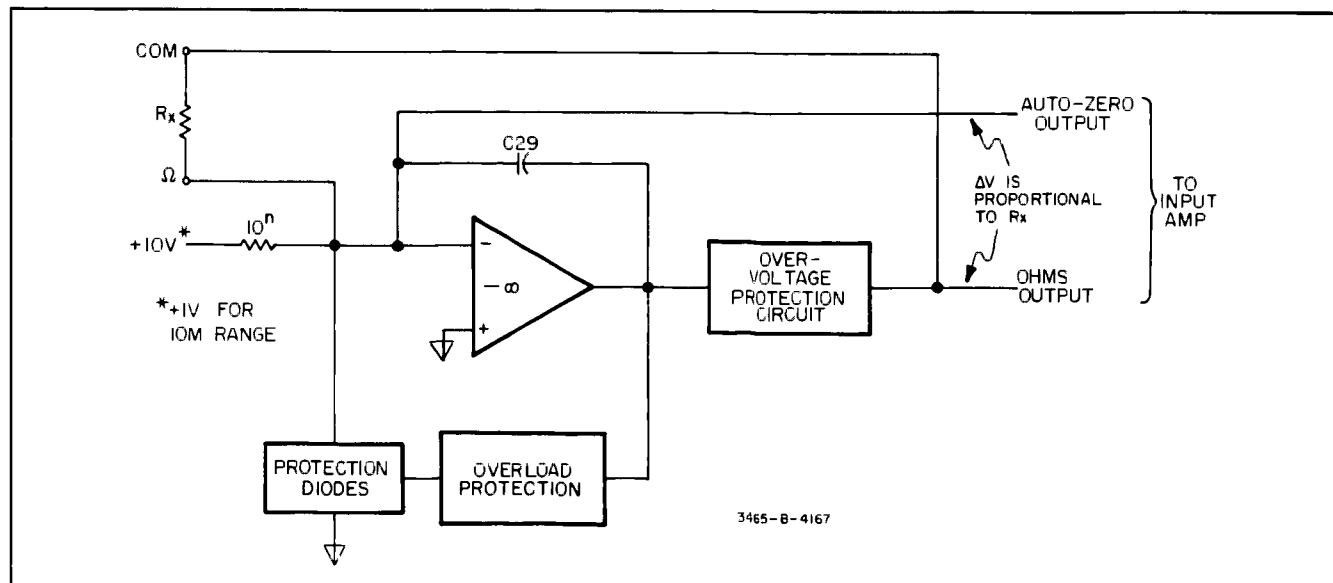

Figure 4-2. Simplified Diagram, Ohms Converter.
4-11. **Ohms Converter.** The ohms converter is a high gain integrating amplifier. A simplified diagram of the ohms converter is presented in Figure 4-2. The blocks of the ohms converter are the integrating amplifier, protection diodes, over-voltage protection circuit and the overload loop. An integrating amplifier is used because this type of amplifier is less susceptible to oscillations. The protection diodes clamp the HI terminal to a voltage of about +1.2 V in the positive direction or -0.7 V in the negative direction.
4-12. Figure 4-2 shows two outputs of the ohms converter being applied to the input amplifier. The ohms output is the ohms converter measurement signal and the auto-zero output is the ohms amplifier dc offset signal which is called the auto-zero (AZ) signal. This AZ signal is applied to the input amplifier during the auto-zero interval of the measurement sequence and establishes the reference for the analog-to-digital converter. An AZ signal greater than ± 1 mV causes the instrument readings to be invalid. This condition (AZ signal $> \pm 1$ mV) is present when the unknown resistance, R_x , is removed and an open loop is present on the ohms amplifier. To maintain the AZ signal at $< \pm 1$ mV when an open loop is present, an overload feedback circuit is used.